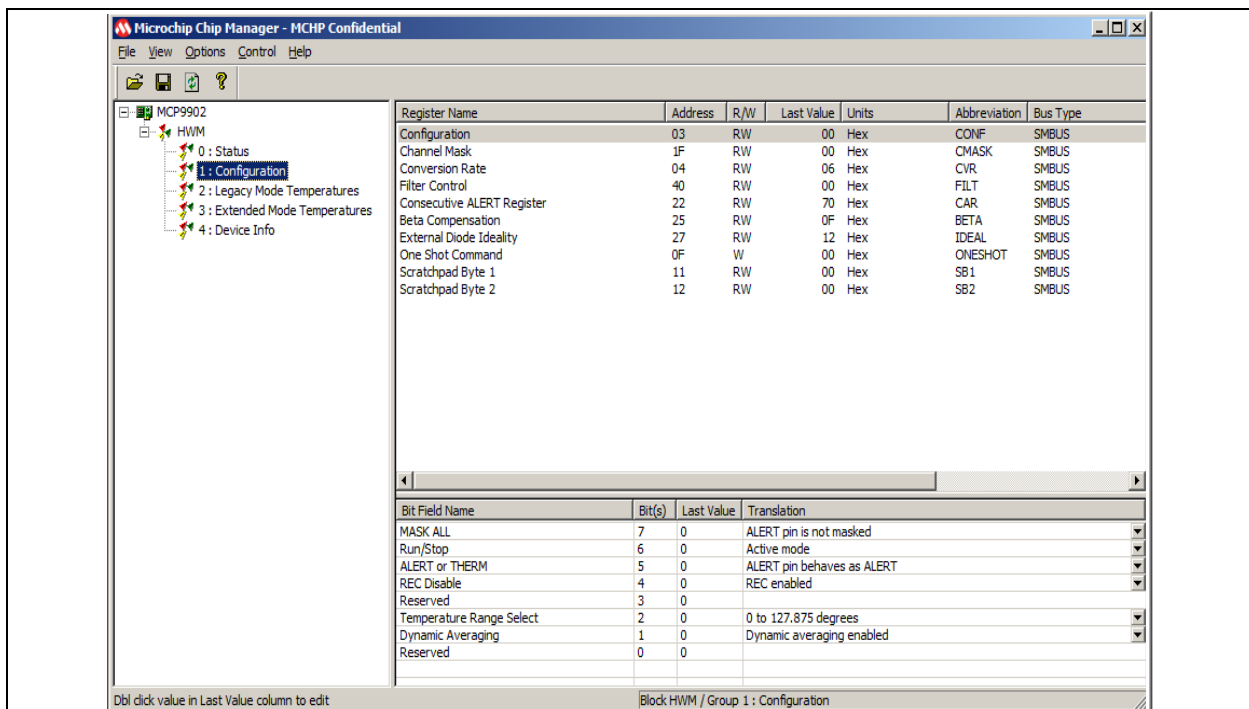

FIGURE 2-12: Chip Manager – Configuration Window.
- To reveal the register descriptions in Chip Manager, highlight “Configuration” as shown in Figure 2-12. The “Bit Field Name” and “Translation” will be shown in the Chip Manager window. For a detailed description of each register, please refer to the MCP990X Data Sheet.